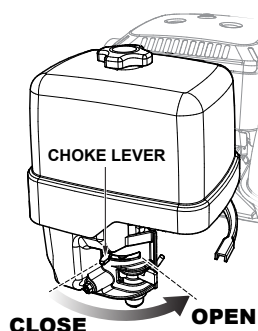

Figure 18. Choke Lever (Open)
8. If the choke lever was moved to the "**CLOSED**" position to start the engine, gradually move it to the "**OPEN**" position (Figure 18) as the engine warms up. If the engine has not started, repeat steps 1 through 6.